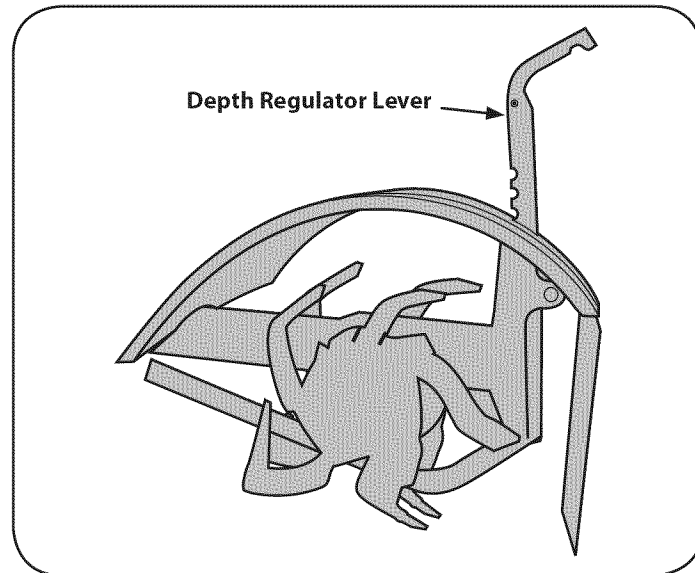

Figure 6
1. With the tiller on level ground, pull the Depth Regulator Lever back and then all the way up until the lowest notch in the lever is engaged. See Figure 6.